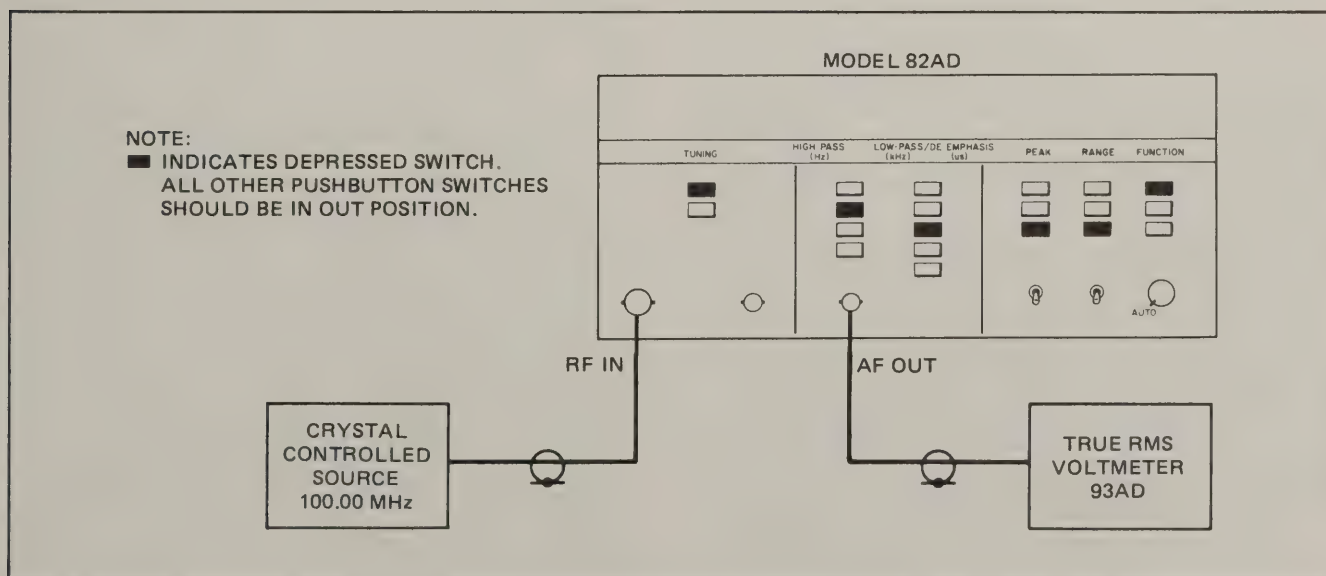

Figure 2-10 Residual FM Check, Test Setup
a. Connect the Model 82AD and test equipment as shown in Figure 2-10.
c. Set the Model 82AD LEVEL control to the AUTO position. Depress the Model 82AD switch indicated in Figure 2-10.